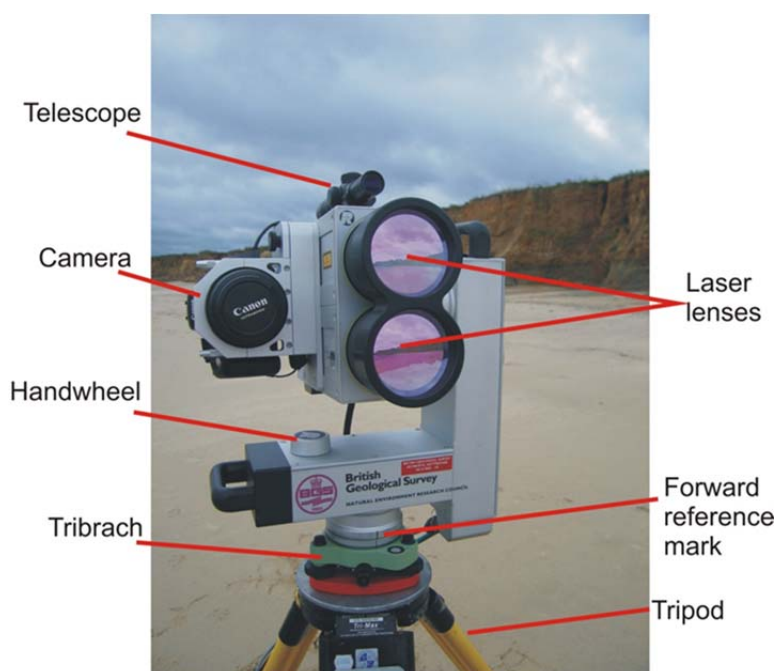
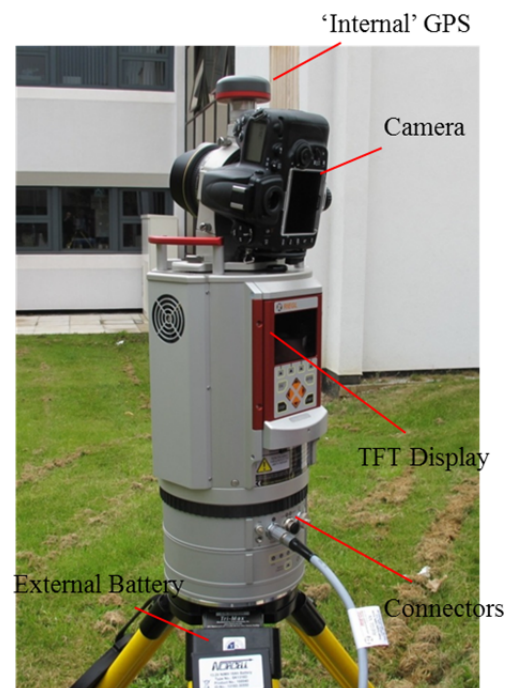

Figure 1 – LPM-i800HA
Figure 2 – VZ-1000
Riegl Terrestrial Laser Measuring Systems are designed for the automatic and manual medium-to-long range capture of digital data for terrain modeling. The LPM scanning system (Figure 1) comprises a laser distance-measuring device mounted on a Pan and Tilt mechanism that rotates 360 degrees around the mounting axis and scans 150 degrees vertically to provide almost total coverage. The VZ scanning system (Figure 2) is a single-axis device that rotates 360 degrees but is limited to 100 degrees scanning arc.
5.1 LPM SCANNING SYSTEM (FIGURE 1)
5.2 VZ SCANNING SYSTEM (FIGURE 2)